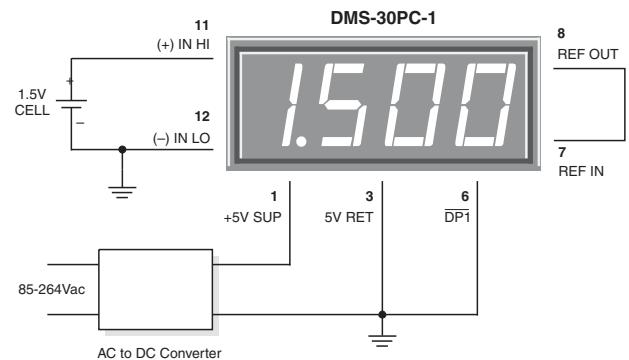

Figure 5. Floating Input Measurements
- 4. Floating Signal Source Measurements:** Floating signals can be measured using the circuits shown in Figures 5 and 6. Connecting pin